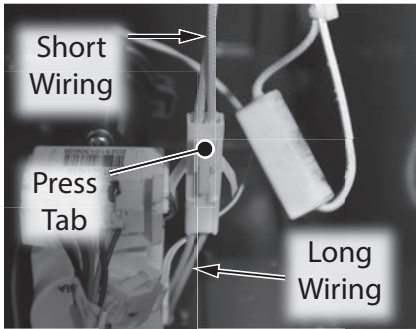

Figure 28 - Disconnect short heater block wiring from long heater block wiring
- 10 Locate the wire connection between the short heater block assembly and the long heater block assembly. Push tab to disconnect wires at connection point as shown in Figure 28.